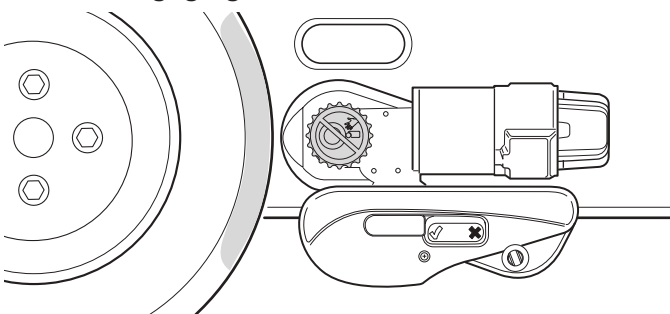

Fig. 33
- The distance between the drive rollers and tyres is 20 mm on both sides (Fig. 33). See chapter 6.1 to check the correct distance between the tyres and the drive rollers